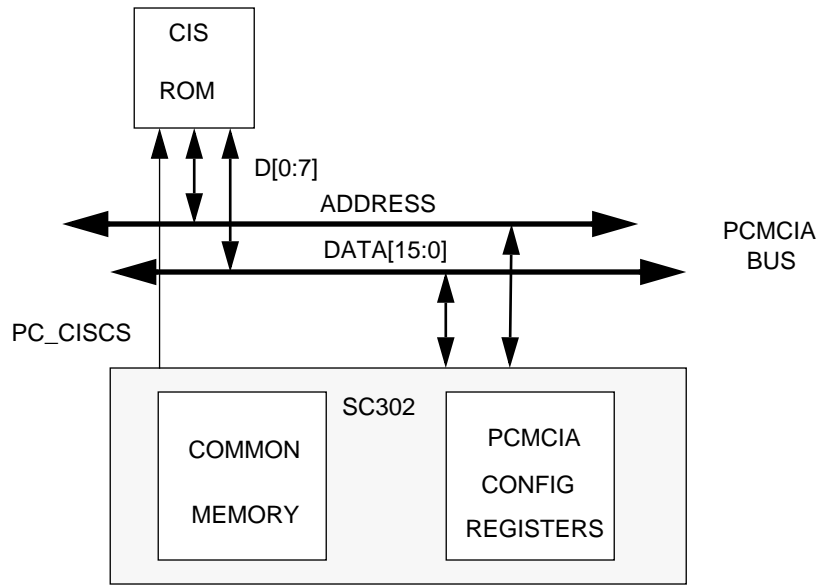

Figure 6-1. Parallel EPROM Configuration
1. When $\overline{\text{IOR}} / \overline{\text{PC_E2E}}$ is pulled up during reset, the serial CIS EEPROM configuration (shown in Figure 6-1) is enabled. The CIS information resides in a serial EEPROM. This is used in typical PCMCIA systems in which CIS size is small (less than 256 bytes). This is the lowest cost option. After system reset, the SC302 creates a CIS shadow within the DPR. This DPR portion is dedicated to CIS information. Thus a trade-off between interrupt latency and CIS size must be considered in this mode. In serial EEPROM mode, CIS access is not supported in low power mode.
2. When $\overline{\text{IOR}} / \overline{\text{PC_E2E}}$ is pulled down during reset, the parallel CIS EEPROM configuration (shown in Figure 6-1) is enabled. In the parallel PROM configuration (shown in Figure 6-1), the card information structure (CIS) information resides in a PROM which is connected to the PCMCIA bus and is selected by a chip select output, PC_CISCS. This option allows larger CIS memory spaces to be implemented without penalizing